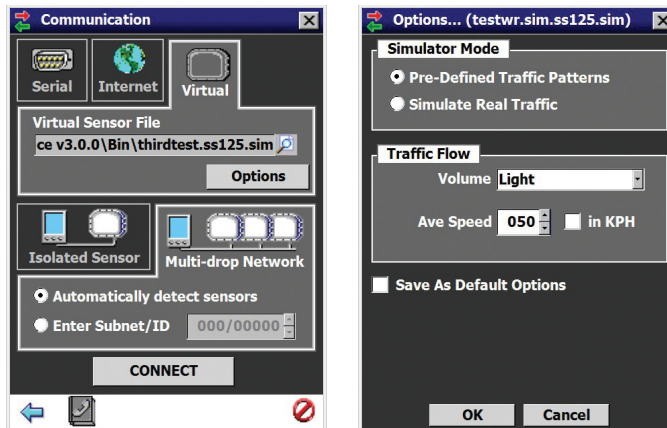

Figure 4.6 - Virtual Connection (left) and Virtual Options (right)
- 2 Select the Virtual tab (see Figure 4.6).